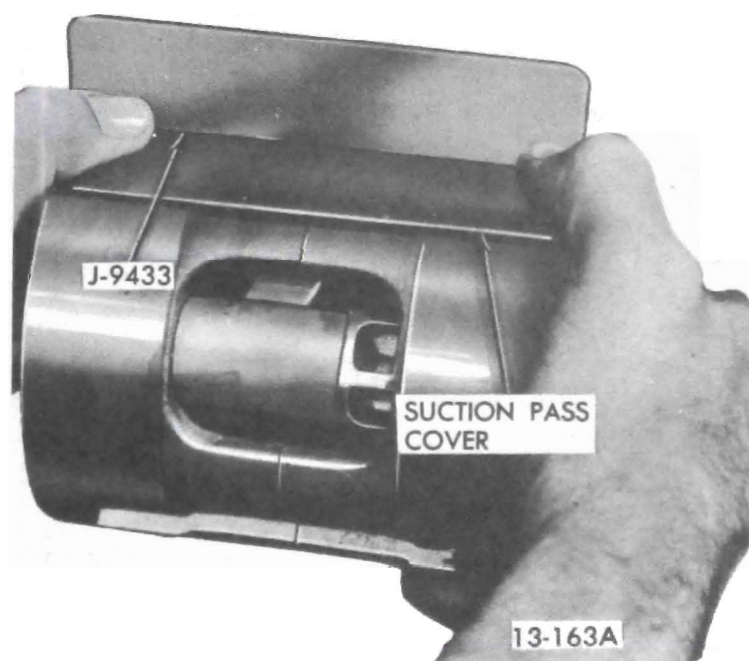

Figure 13-69 Installing Suction Pass Cover
7. Liberally lubricate with No. 525 viscosity oil, suction pass cover and lips of suction passage in body of cylinder assembly, and reassemble suction pass cover over suction passage (see Figure 13-69).